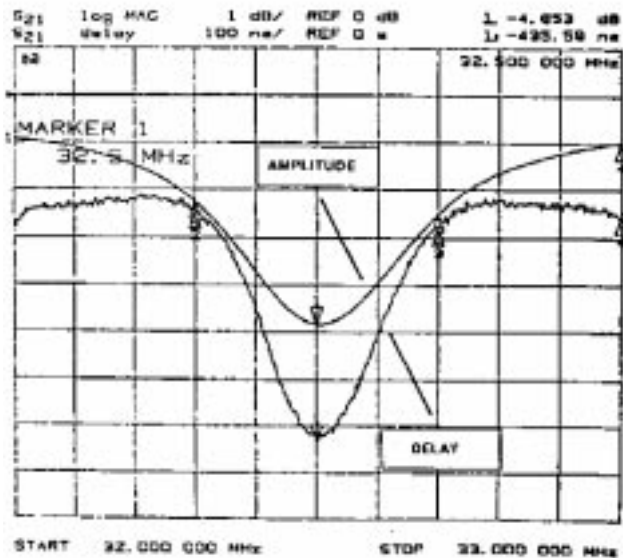
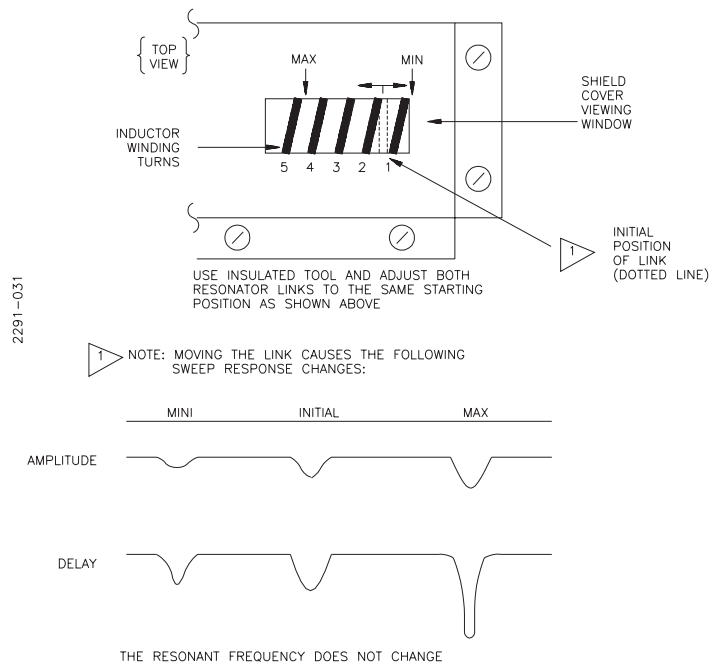

Figure 5-19. Typical Amplitude & Delay
Figure 5-20. Link Coupling Adjustment
- d. The amplitude dip in the frequency response curve caused by F1 and F2 should be about equal in amplitude. If not, then adjust the link coupling as shown in Figure 5-20 for equal amplitudes and with the typical levels shown in Figure 5-19.